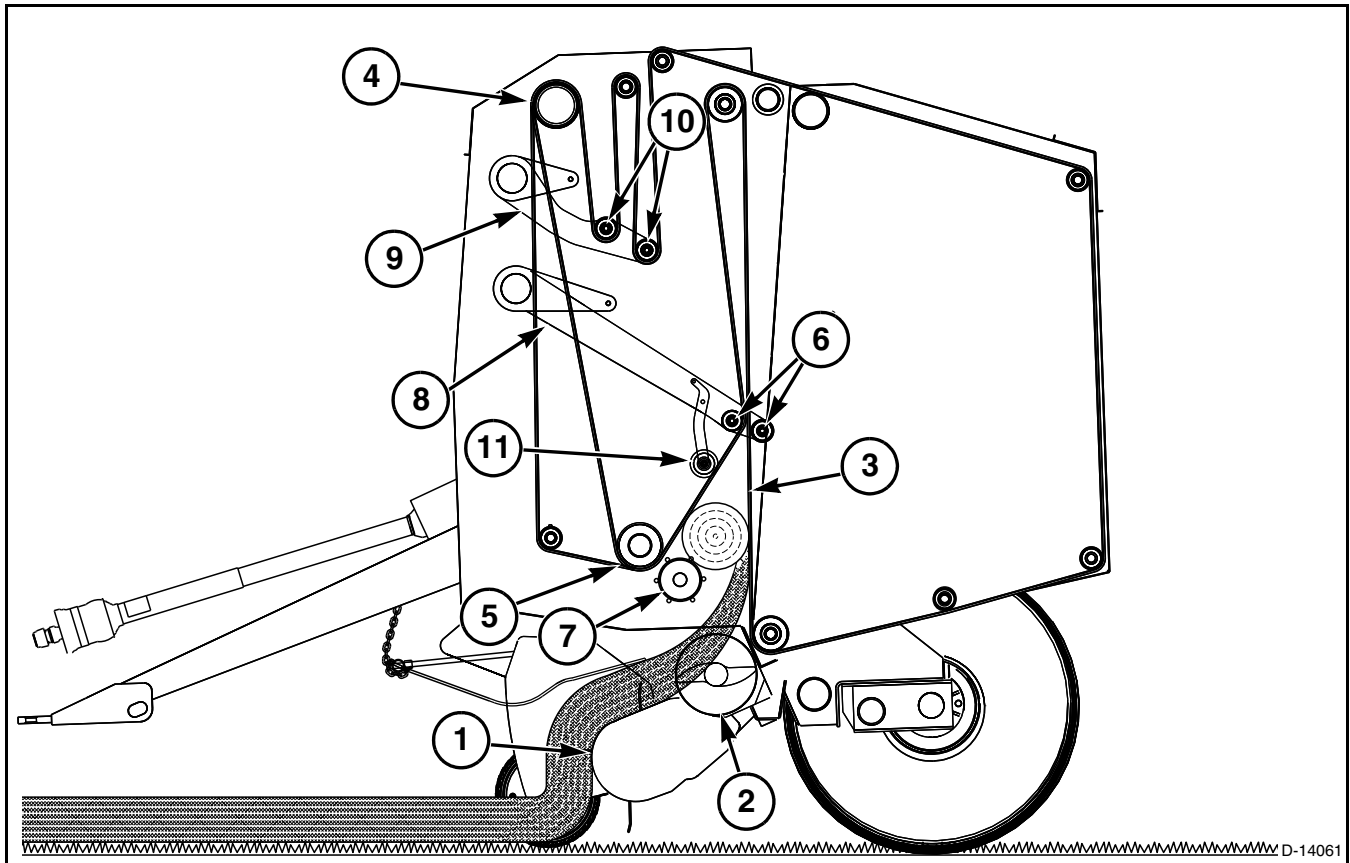

FIG. 3
FIG. 3: Windrowed crop is fed into the baler by the pickup assembly (1). The crop is moved to the chamber opening by the left-hand and right-hand augers (2). The stuffer assembly feeds the crop into the bottom of the open throat bale chamber. In the bale chamber the crop contacts the rough top surface of the forming belts (3), which are moving upward. The forming belts are driven by the upper (4) and lower (5) drive rolls. The forming belts carry the crop to the top of the starting chamber formed by the front and rear bale density rolls (6). The motion of the forming belts turns the crop downward against the starting roll (7). The core is started and begins to roll.